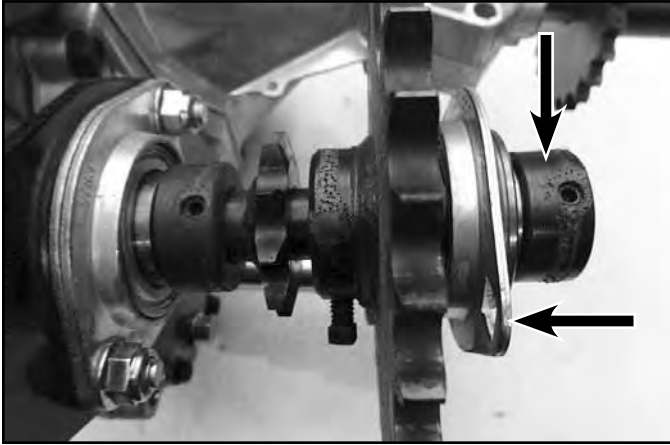

Fig. 115 20a
8. Remove the lock collar and bearing from the jack shaft the same way as the output shaft (Fig. 115).